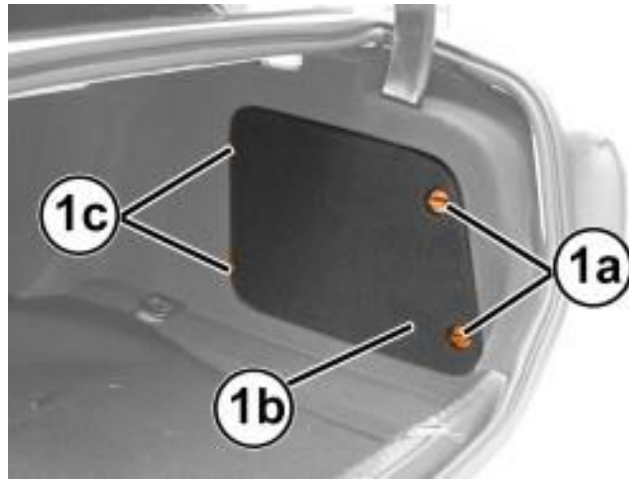

Figure 2 – Battery Cover
16. Working on the right side of the luggage compartment, turn the retainers (1a) counterclockwise to the end of their travel to release them, then remove the cover (1b) releasing the retainers in the areas (1c) (Figure 2).